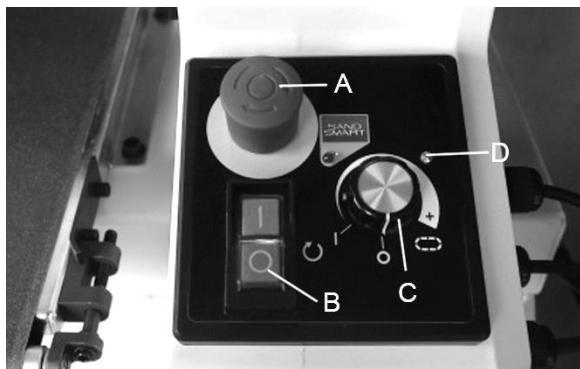

Figure 9-1: control panel
2. Disengage emergency stop by clockwise turning the red button or pulling it up (A, Figure 9-1).
**Note:** Error Indicator (D) may flash continuously to remind that the conveyor speed dial is NOT set at OFF position before starting the operation.